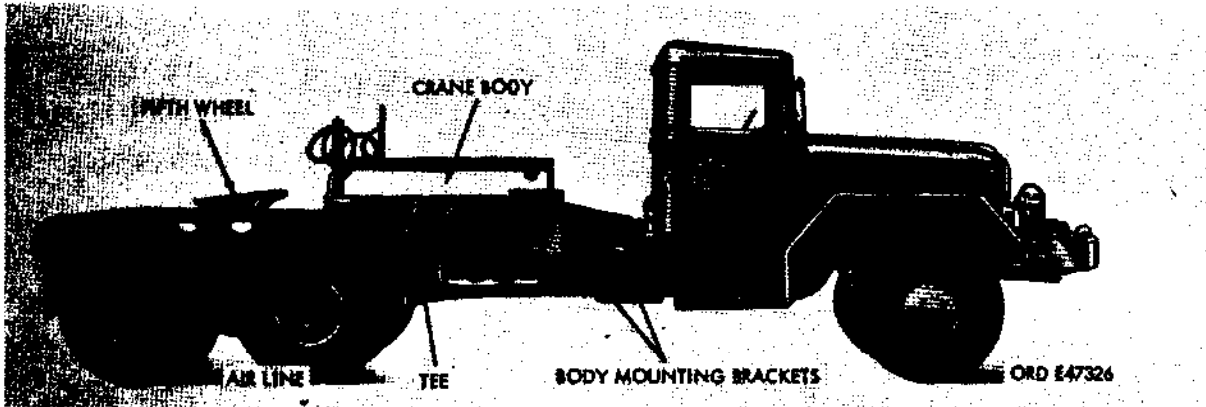

Figure 537. Right side view of tractor wrecker truck M246 with hydraulic crane and reservoir removed
m. Crane Body. The crane body (fig. 537) is bolted to the truck frame (after removal of the base plate and pivot post assembly) by four cap screws and safety nuts, installed two on each side through brackets bolted to the truck frame. In addition, the fifth wheel approach plates at the front of the crane body are bolted to the top flange of the truck frame side rails by six cap screws and safety nuts, three on each side. The approximate weight of the crane body, including the outriggers, is 2200 pounds.